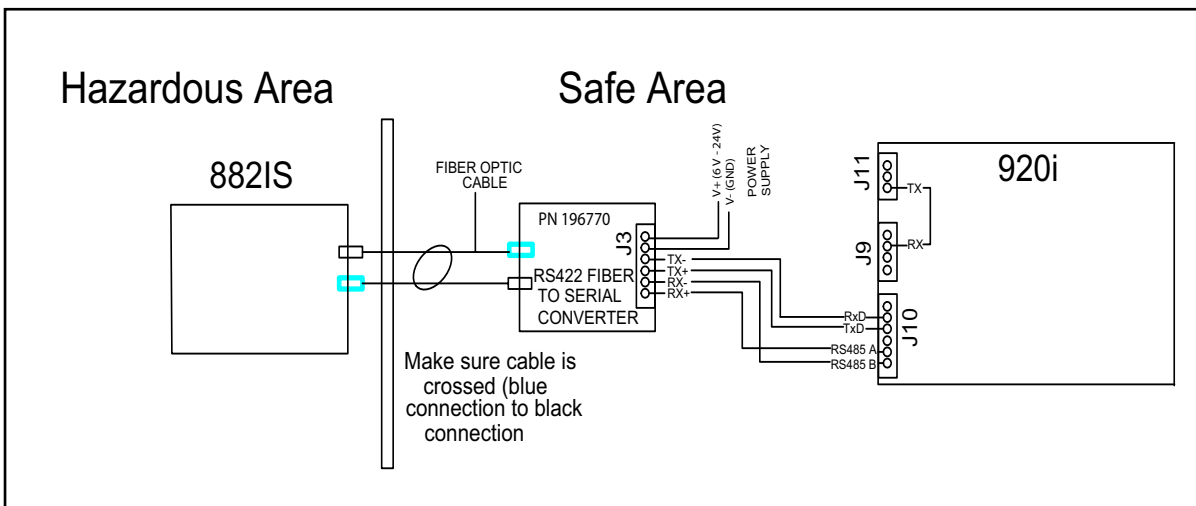

Figure 8-2. 882IS/882IS Plus Remote Setpoints RS-422 Hardware Model Example
- RS-422 fiber to serial converter box (PN 196770) (Figure 8-2 on page 70)